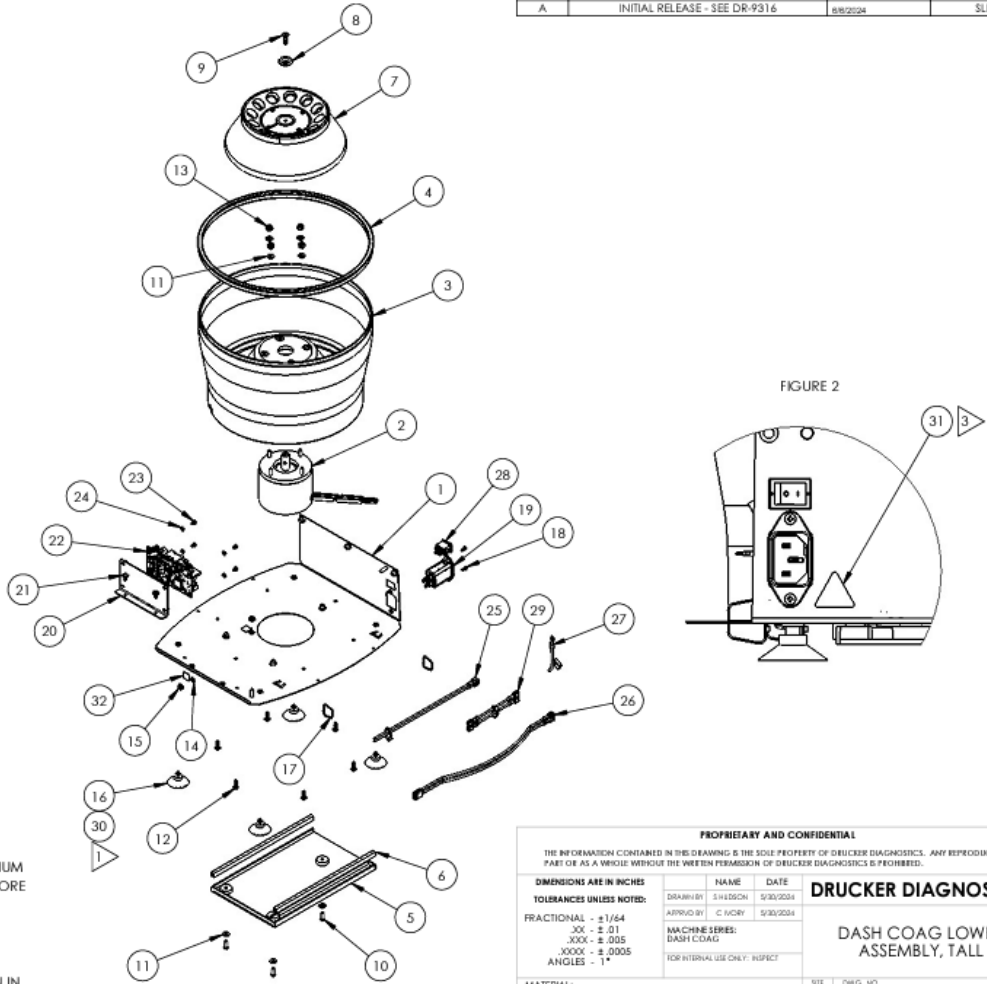

FIGURE 2
- APPLY WARNING LABEL (31) TO REAR OF BASE NEAR AC INLET AS SHOWN IN FIGURE 2